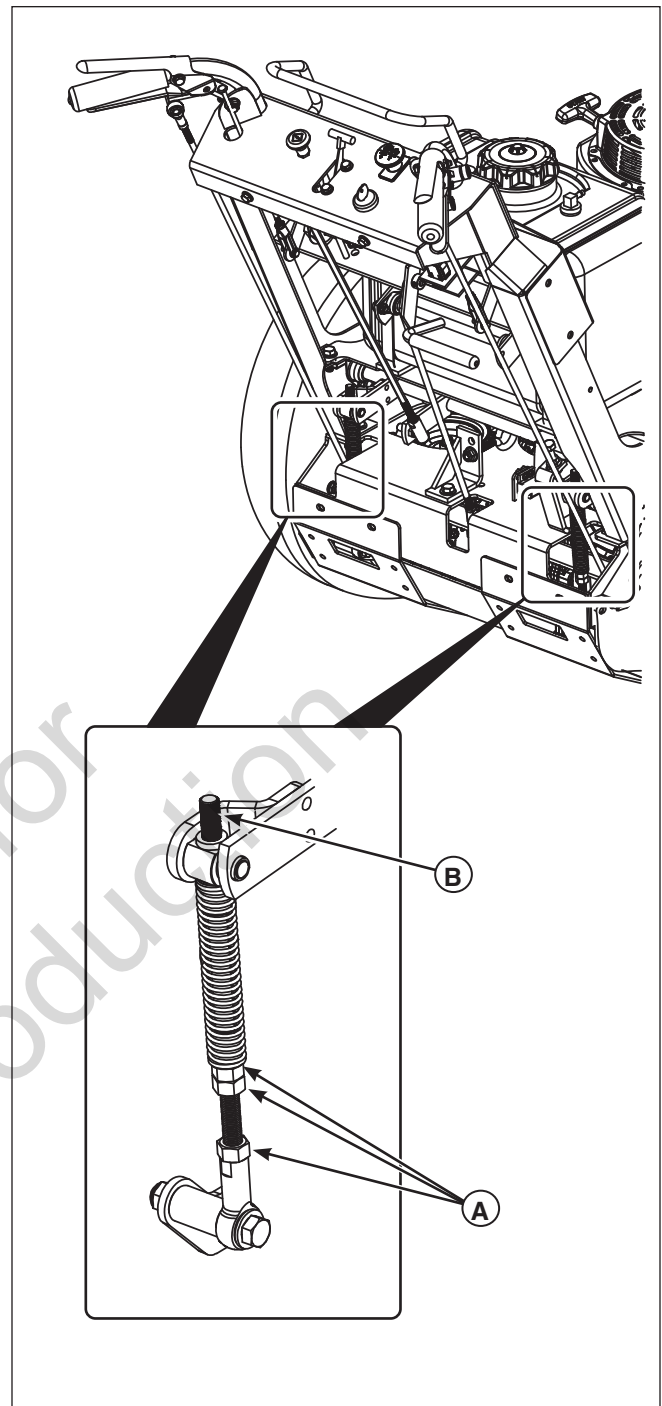

Figure 22. Adjusting the Speed of the Faster Wheel
There are three (3) nuts (A, Figure 22) on the linkage rod (B). The first two are to be used together to turn the rod and the third is used to lock the rod in place.